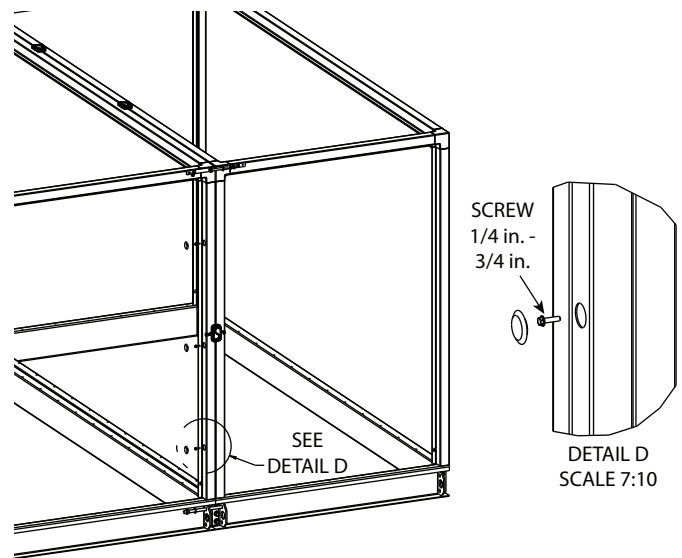

Fig. 31 — Attaching CCH at Section Split — Location of Screw Holes
- c. Use tool clearance holes to install 1/4-in. screws into the downstream frame for the permanent section joint (only necessary on the CCH side). Detail D in Fig. 31 shows the location of the holes; the number of holes will vary by unit.